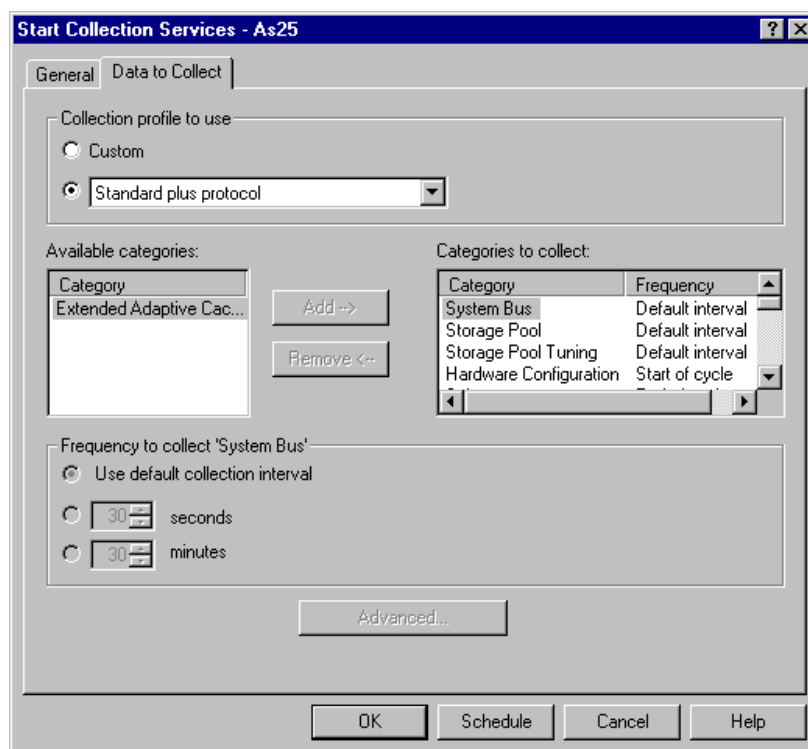

Figure 109. Start Collection Services window: Data to Collect page
- In the **Default collection interval** panel, specify the collection interval for any data category that does not have a specific interval defined on the Data to Collect properties page (see Figure 109 on page 132). This is the amount of time, in seconds or minutes, that elapses between collections for all categories of AS/400 system performance data that support collection at specific time intervals. The recommended default collection interval is 15 minutes. A change to the default collection interval becomes effective immediately after you click OK on the Start Collection Services window. This means it is applied to the current collection of data even if you do not cycle the collection.
7. Click the **Data to Collect** tab to select the page that is shown in Figure 109.
- In the **Default collection interval** panel, specify the collection interval for any interval that does not have a specific collection frequency defined on the Data to Collect properties page (see Figure 109 on page 132). This is the amount of time, in seconds or minutes, that elapses between collections for all categories of AS/400 system performance data that support collection at specific time intervals. The recommended default collection interval is 15 minutes. A change to the default collection interval becomes effective immediately after you click **OK** on the Start Collection Services window. This means it is applied to the current collection of data even if you do not cycle the collection.